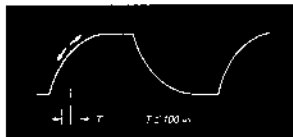

Fig. 7-7.
2. Check that gate pulse locks at TP-405 in the range of t less than $100 \mu\text{sec}$. See Fig. 7-7.